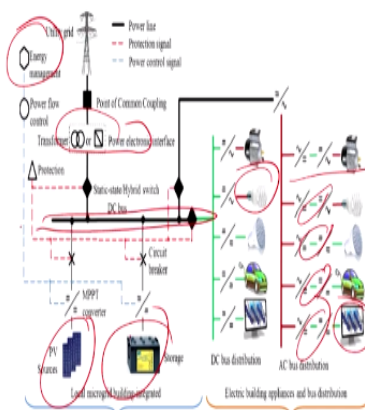

Fig.4 Example of building-integrated microgrid system
- An example of a building-integrated microgrid system, in grid connection operating mode, is presented in Fig.4.
So you can see that electric building appliances of bus distribution where multi, where intermittently there is all having a DC to DC stage and some extent you have also the this DC to AC stage like this is the LED TVs. So for example, a building integrated in a microgrid system which has been described in a figure 4, the grid connections in operation mode is presented in the 4. The PV generation, electricity storage, public grid connections, and the electric building loads are coupled, though they are dedicated converters to a common D bus, this is the common DC bus.